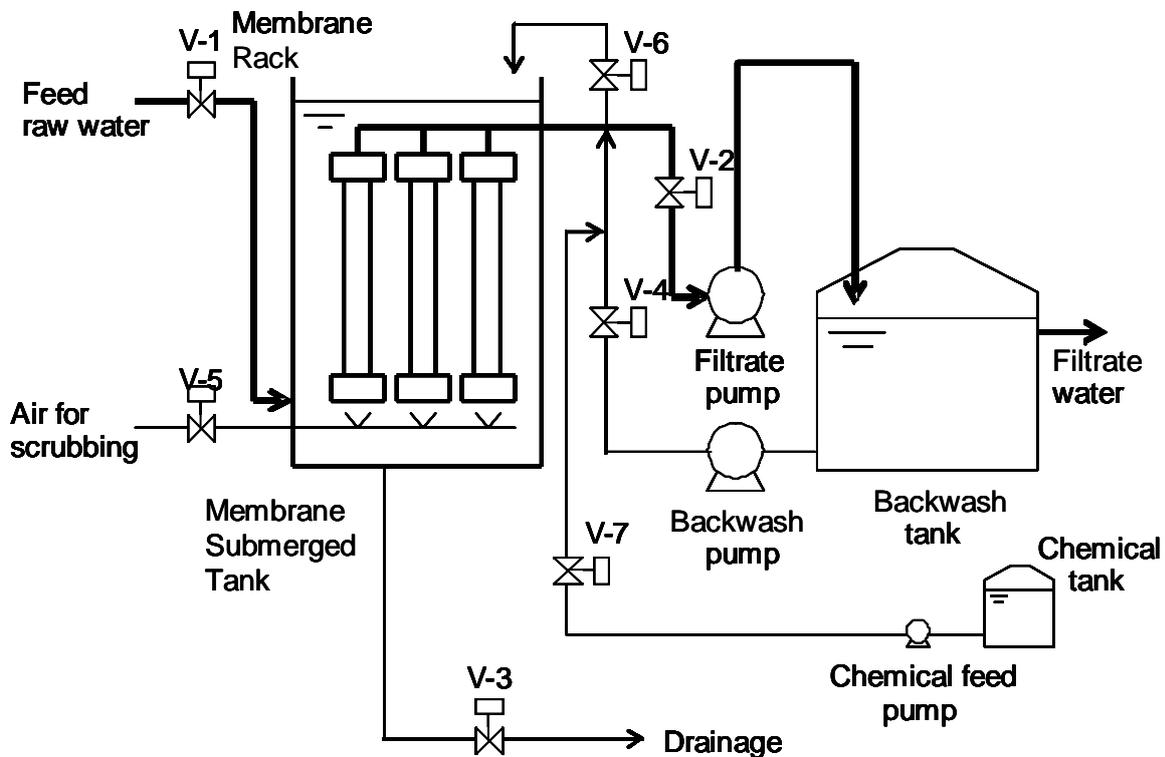
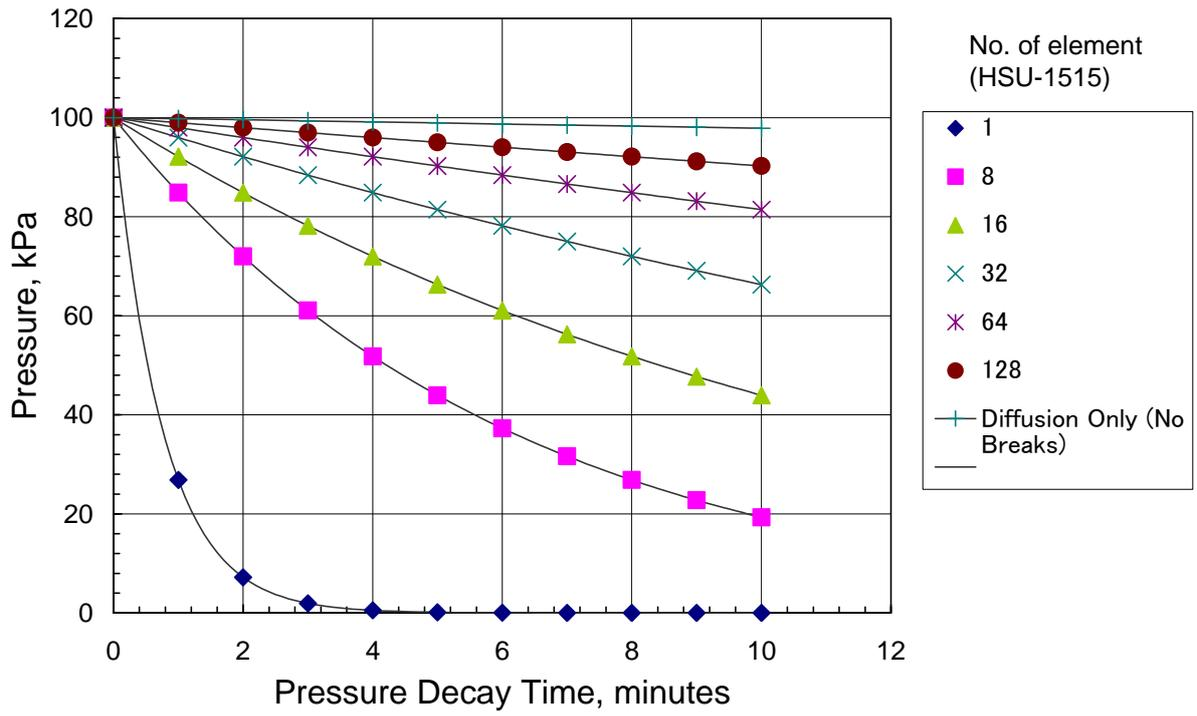

Fig. 10 Flow diagram for filtration
Fig. 17 HSU-1515 pressure decay rates with one broken membrane fiber (calculated)
Fig. 10 shows a typical example of the flow diagram for filtration.
- (5) Monitor the pressure decay ( $\Delta p$ ) of the feed air pressure for 5 to 10 minutes, dependent on the number of elements. See Fig. 17 for examples of pressure decay due to one broken membrane fiber. If pressure decay is excessive, a visual inspection of the element will be required (see step 7). The pressure decay rate depends on the H. The Fig. 10 shows in case of  $H = 0.1$  m. Please correct the Fig. 17 by using the actual H.
- (6) Diffusion of air through the water filled pores of the membrane fiber leads to a pressure decay of approximately 1 kPa in 5 minutes (dependent on the volume of the pipe work manifolds, etc.). A single broken membrane fiber in 128 HSU-1515 elements gives a pressure decay of approximately 5 kPa in 5 minutes, so a decay of 5 kPa in 5 minutes is normally used to indicate the presence of a single broken membrane fiber for this size of unit.
- (7) In case of the pressure decay is excessiveness, identify the elements with broken membrane fibers by visual check of water surface (bubbling) in the submerged tank. The pressure time should be kept within 15 minutes to keep from drying out of the membrane.
- (8) Mark any leaking elements for subsequent replacement.
- (9) After the 3 to 10 minutes pressure hold test period (or after identifying the elements with broken membrane fibers), relieve pressure in the permeate side of the membrane element by opening the air vent valve (V-7). If there are elements with broken membrane fibers, dismount it after the pressure release.
- (10) Open the backwash valve (V-5), run the backwash pump and vent air from the filtrate manifold through the V-7.
- (11) After venting air from the filtrate line, close the V-5 and the V-7, then stop the backwash pump.
- (12) The unit is now ready for processing.